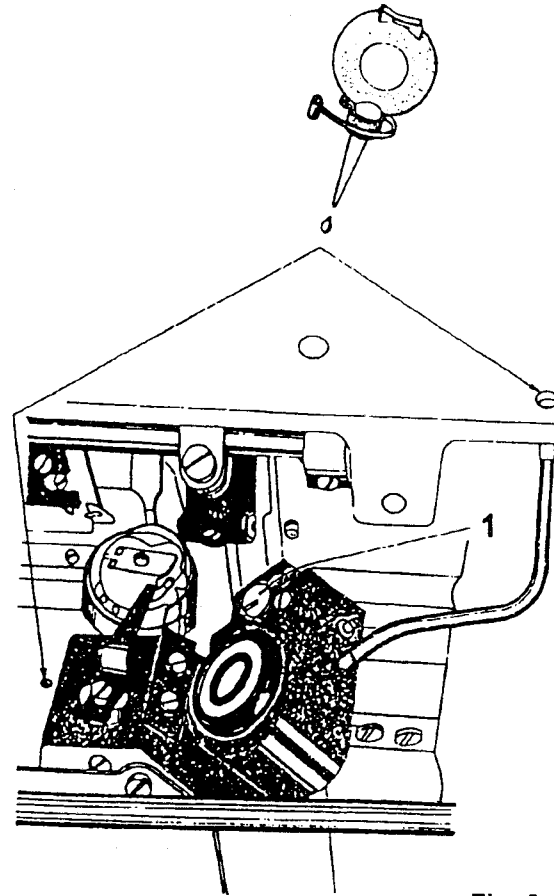

Fig. 2
## 6. To adjust the hook lubrication (Fig. 2)
**10. To adjust the hook holder (Fig. 2)**